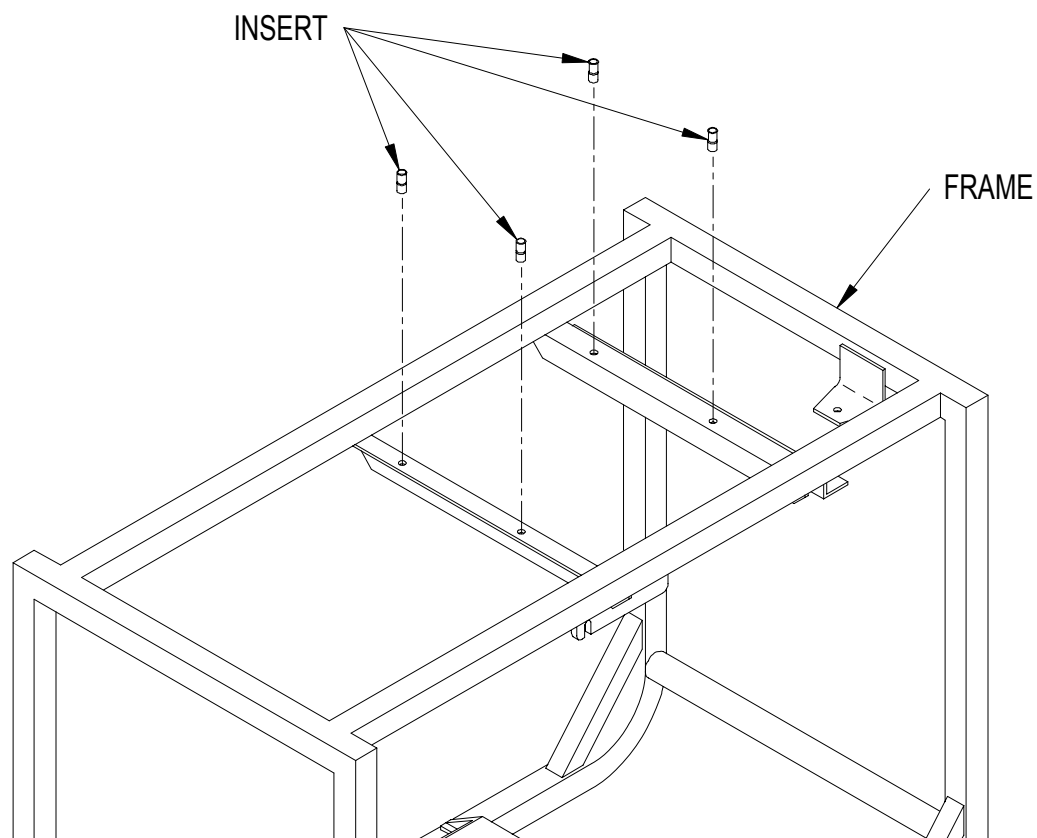

Figure 4-64. Frame
- (1) Inspect frame (Figure 4-64) for chipped paint, and other damage.
- (2) Inspect threaded inserts for debris and damage.